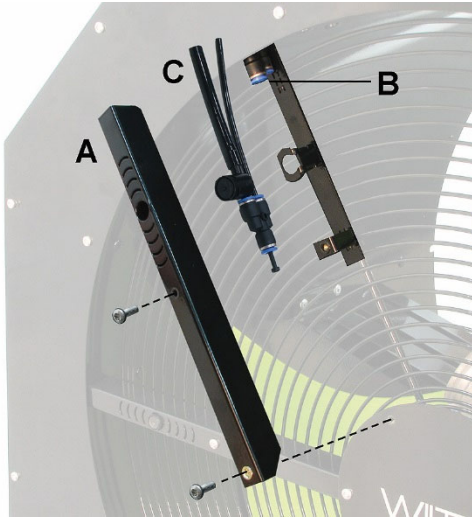

Figure 7-1
- If an individual nozzle is blocked, remove nozzle bracket cover (A, Figure 7-1), push blue rings (B) to pull out hoses, and remove entire nozzle assembly (C). Soak nozzle assembly in white vinegar. Reinstall nozzle assembly and test.